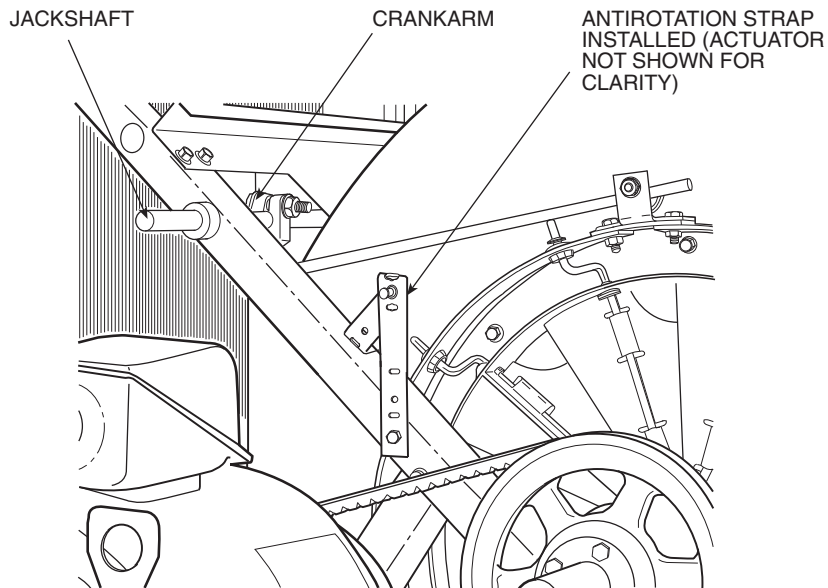

Fig. 11 — IGV Actuator Bracket Installation
5. Take the anti-rotation bracket supplied with the actuator and, with the center locking pin pointed outward, slip the pin into the slot at the far end of the actuator. Seat the pin into the center of the groove provided. If the anti-rotation bracket is not seated against the frame member, measure the distance from the member and remove the anti-rotation bracket from the actuator. Bend the bracket to the required offset. See Fig. 11.